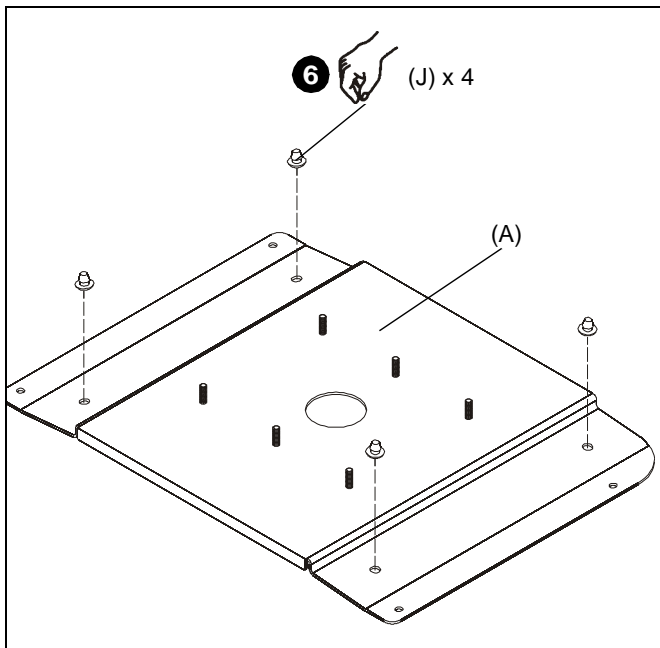

Figure 1
2. Carefully spread vertical legs of cradle bracket (B) down over sides of projector.
3. Align four insert holes on the bottom side of the projector with the four holes in the flat face of the cradle bracket (B).
4. Secure cradle bracket (B) to projector using four M5 x 12mm machine screws (D) and four M5 washers (G).
6. Install four rubber bumper spacers (J) in four inner holes of hanging bracket (A), pushing rubber bumpers into holes with larger diameter facing the projector surface. (See Figure 1)